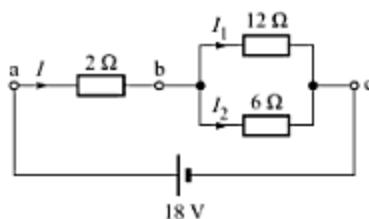

Fig. 2.34
8. Determine I , I_1 , I_2 , V_{ab} , and V_{bc} in the network of Fig. 2.34.